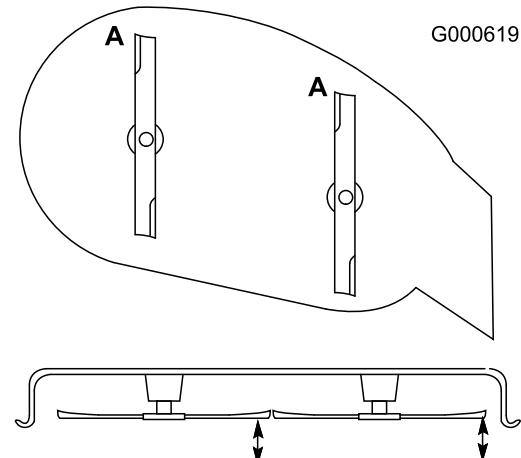

Figure 38
1. Rotate the blades until the ends face forward and backward (Figure 38). Measure from a level surface to the cutting edge, position A, of the blades (Figure 38). Note this dimension.